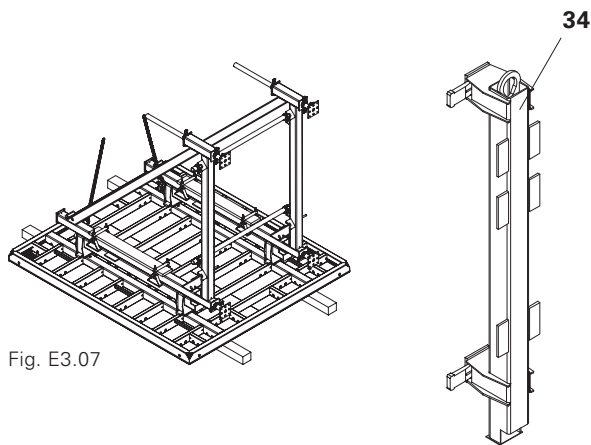

Fig. E3.07
6. Remove Connector SB-1, 2 (34) on the formwork unit: release wedge and remove Bolts SB and Sleeve SB. (Fig. E3.07 + E3.08)